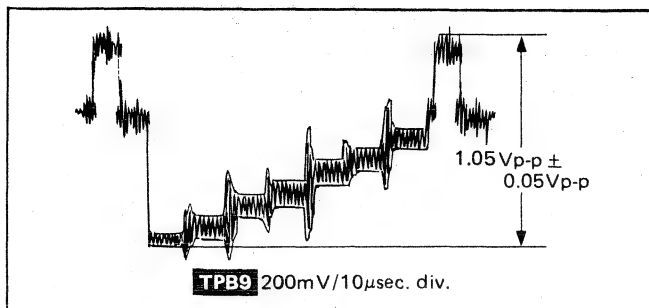

Fig. 5
4. Adjust R324 (Y-Level) so that the **TPB9** becomes  $1.05V_{p-p} \pm 0.05V_{p-p}$  as shown in Fig. 5.